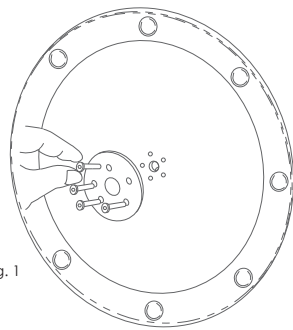

Fig. 1
STEP 1: Insert 5 screws (E) through holes on plate (C) under bottom of the Disk base chair (B) as shown in fig. 1.